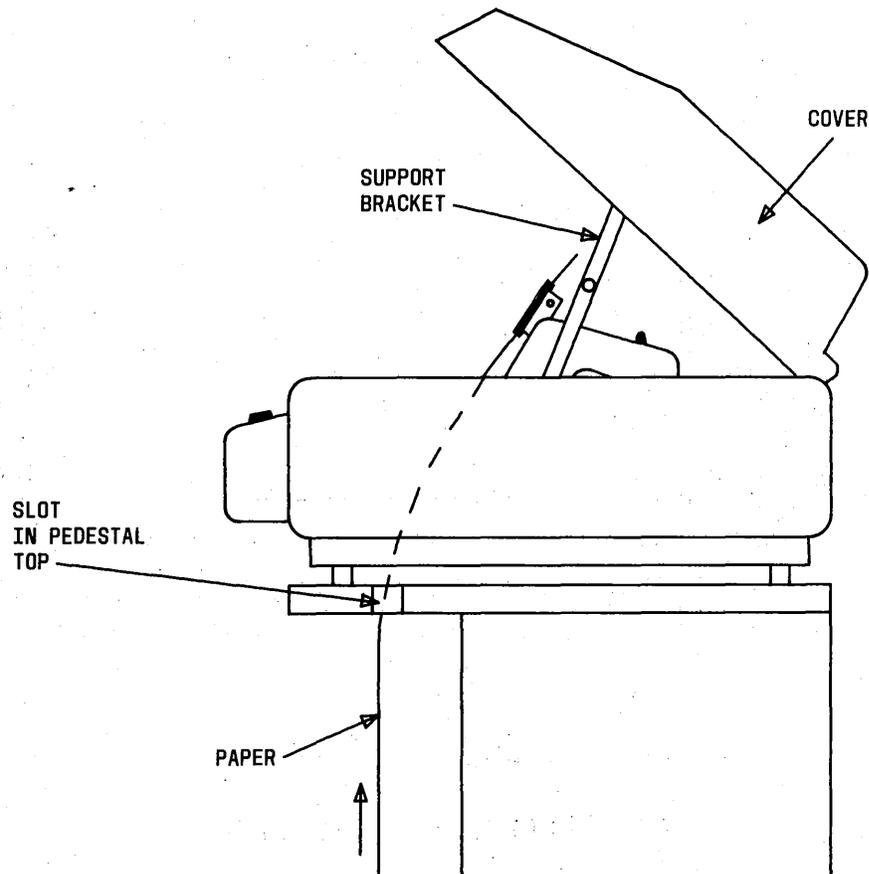

Fig. 19—DATASPEED 40 Printer Side View
- 4 Feed paper up through printer and guide paper in back of ribbon and between upper paper guides (Fig. 19).